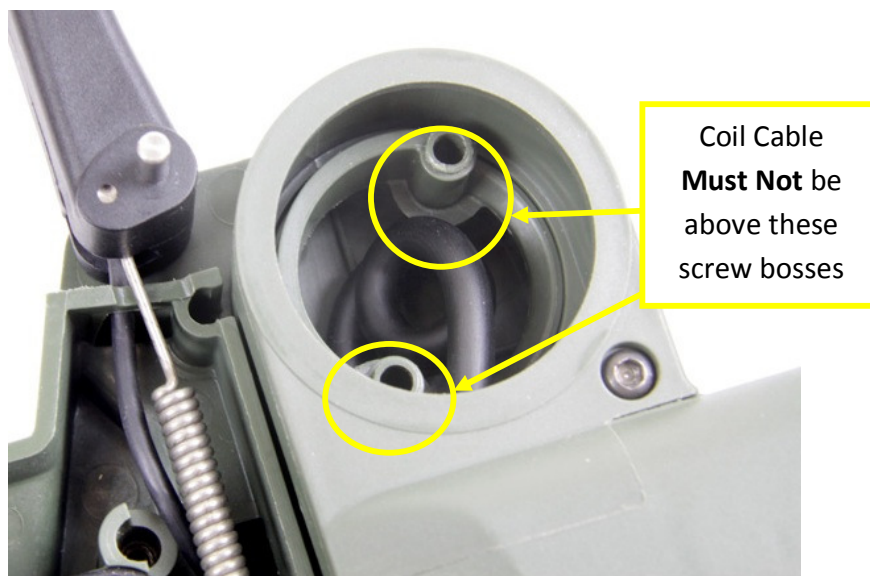

Figure 21: Coil Cable Position in Shaft Hinge
- Fit the coil cable into the cable router and check that the loop of coil cable within the shaft hinge is positioned so that it will not be trapped when the detector body is closed. Refer to Figure 21.
- The coil cable must be located within the shaft hinge so that it is not trapped or damaged when the halves of the detector body are fitted together. In particular, the coil cable must not be positioned above the hinge screw bosses. Figure 21.